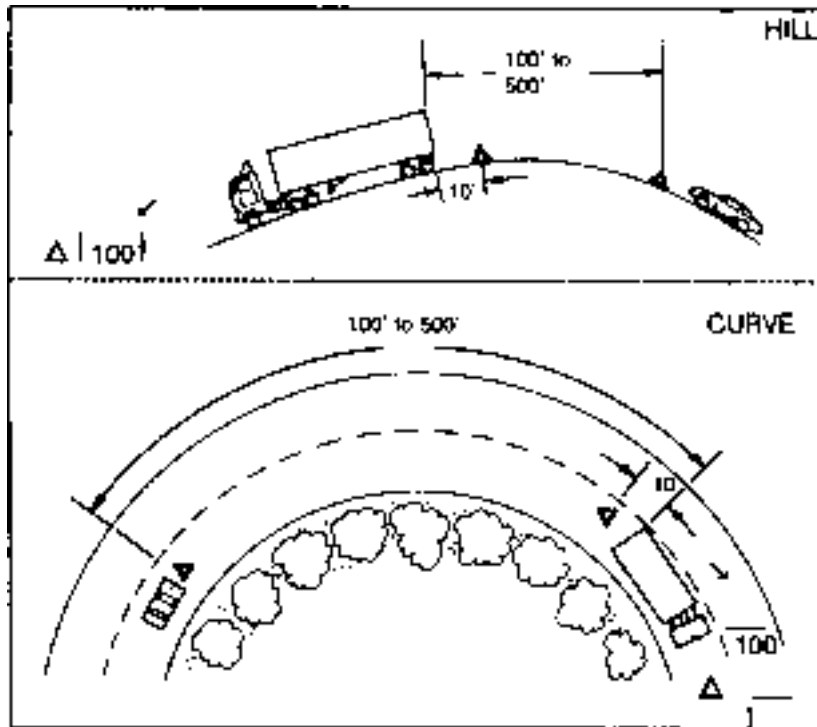

*Figure 2-8 Warning Device Placement: Two Lane (traffic in both directions) or Undivided Highway*
- If you stop on a 2-lane road carrying traffic in both directions or on an undivided highway, place warning devices within ten feet of the front or rear corners to mark the location of the vehicle and 100 feet behind and ahead of the vehicle, on the shoulder or in the lane you stopped in. (See Figure 2-8.)